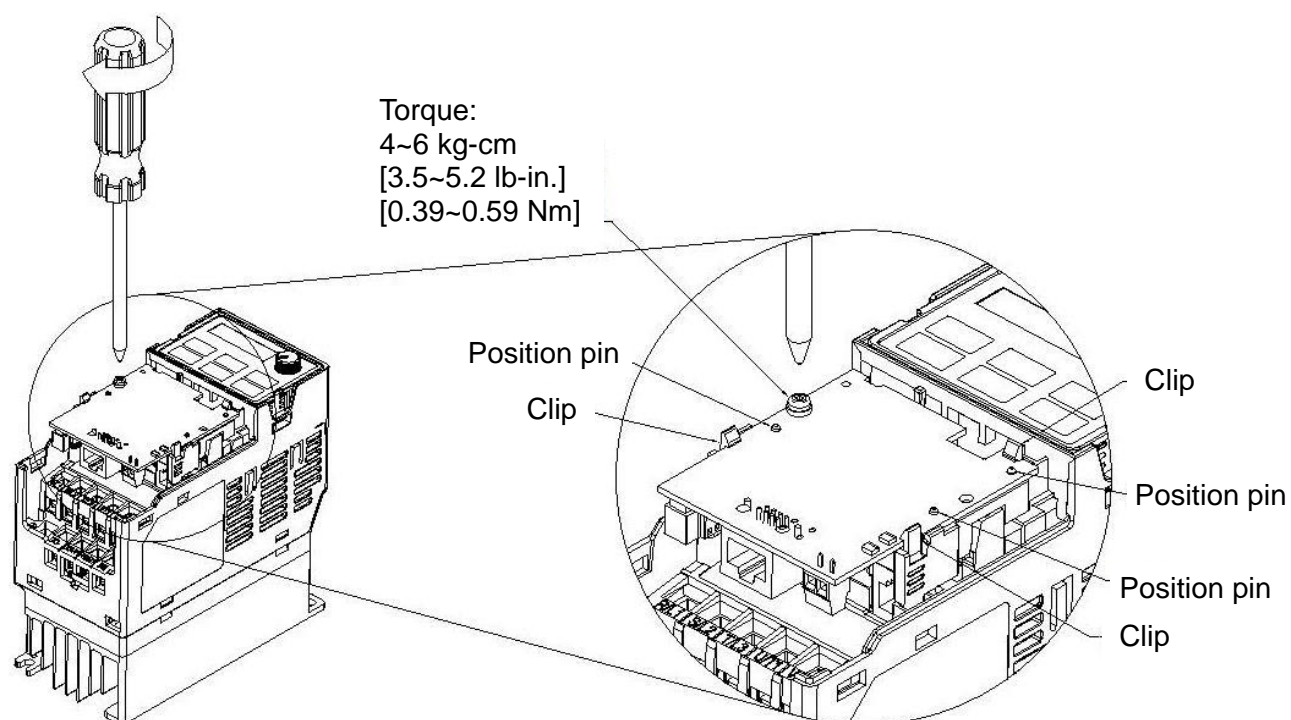

Fig. 8-5
7. Fasten the screw after the option card fixed fitting is clipped with the holes. (shown in Fig. 8-5)